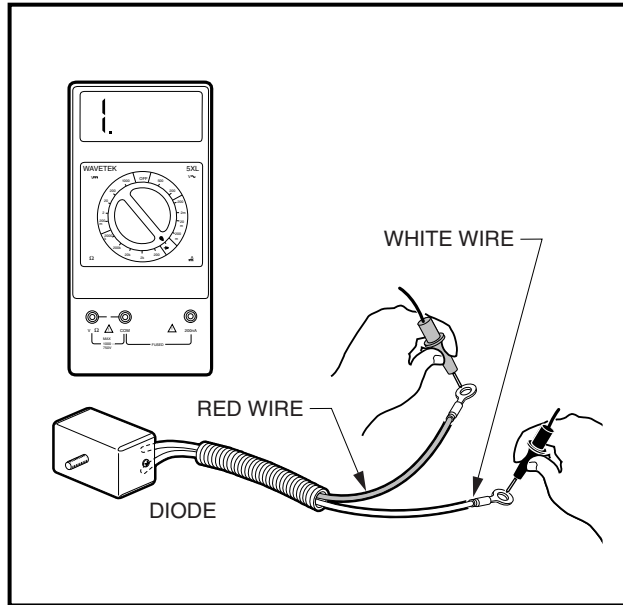

Figure 11-37 Diode Test
4. With the multimeter set to the diode test function (→|←), connect the black (–) probe of the multimeter to the white lead of the diode and the red (+) probe of the multimeter to the red lead of the diode (**Figure 11-37, Page 11-31**). The reading should indicate an overload (no continuity). A diode is designed to conduct current in one direction only. If a diode conducts current (shows continuity) with the meter probes as described, the diode has failed and must be replaced. **See Diode Removal, Section 12, Page 12-12.**